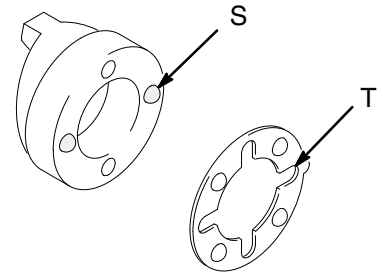

Fig. 28
5. Trigger the gun while you install the fluid nozzle (19) with the nozzle wrench (P).
6. Install the spring (25), detent plate (26), air cap (27), and air cap retaining ring (29). Be sure to properly align air cap detents with the slots in the detent plate. See Fig. 28.